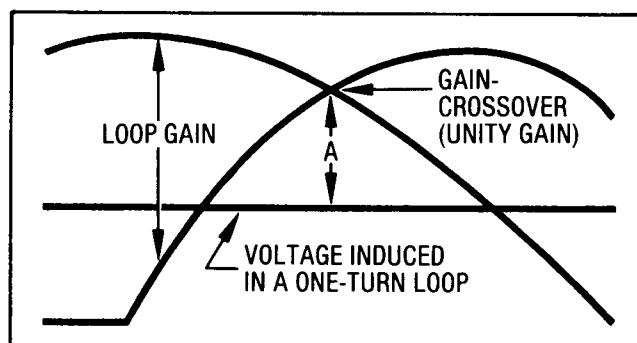

Figure 5-15. Spectrum Analyzer Display of Phase Locked Loop Gain
6. Press the SINGLE sweep key. Check that the gain-crossover frequency is 20 ± 2 kHz. If the gain-crossover frequency is not correct, A3A9A4R20 must be changed to set the correct frequency; otherwise, this adjustment is complete. See Figure 5-15.